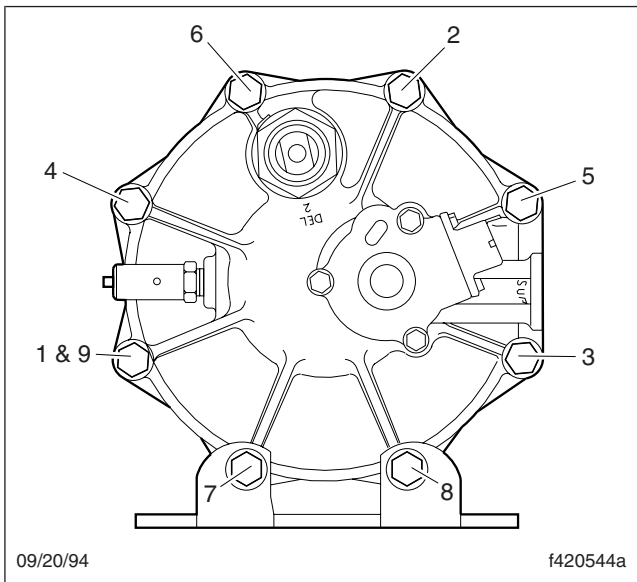

Fig. 3, End Cover to Housing Torque Pattern
16. Install the 6 capscrews, 12 washers, and 6 new Nylok nuts. Torque the capscrews in a star pattern 270 to 385 lbf·in (3050 to 4350 N·cm); see **Fig. 3**.